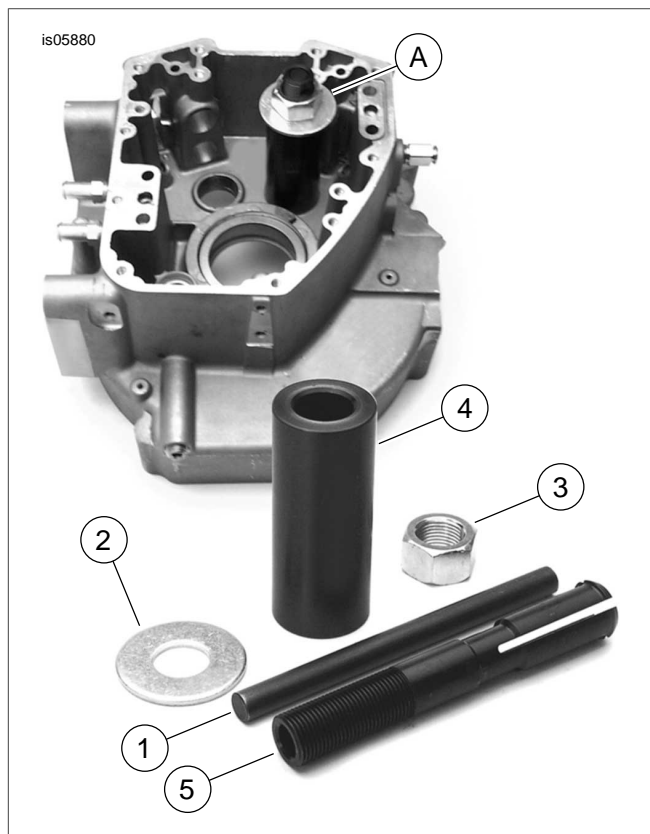

Figure 1. Service Parts: Twin Cam Inner Cam Bearing Remover Tool
See Figure 1 and Table 1.
- See Figure 1. Disassemble tool by removing the nut (3), brass washer (2), sleeve and inner pin (1). This will leave the inner cam bearing puller (5) and remover body (4).